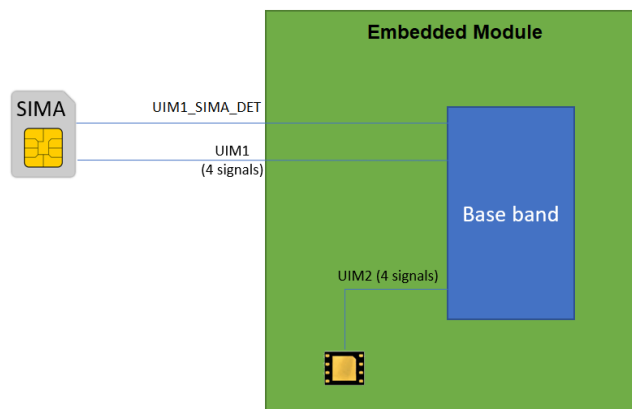
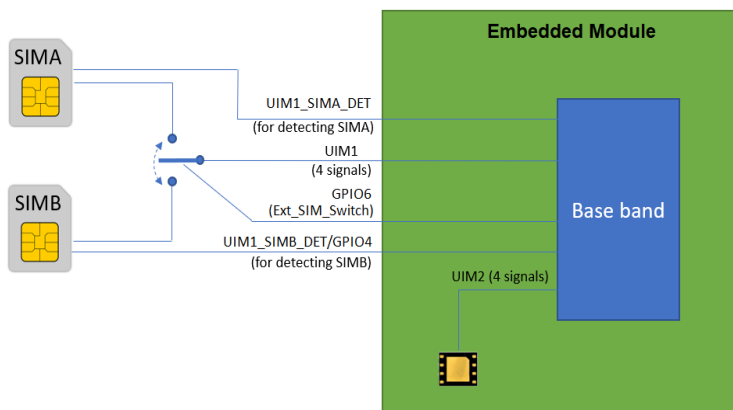

Figure 4-3: Single External SIM Configuration
Figure 4-4: Dual External SIM Configuration
- UIM1 — this interface allows control of 1.8V or 2.85V UIMs. For RC7611, RC7611-1, RC7612, RC7612-1, RC7620, RC7620-1, RC7630, RC7630-1, and RC7630J* it also supports single or external dual SIMs. For usage details, see Figure 4-3 and Figure 4-4.
Note: Figure 4-3 illustrates the recommended implementation of a single external SIM configuration. For a detailed UIM schematic, see Figure 5-8.
Note: Figure 4-4 illustrates the recommended implementation of a dual external SIM configuration. For a detailed external SIM schematic, see Figure 5-9.